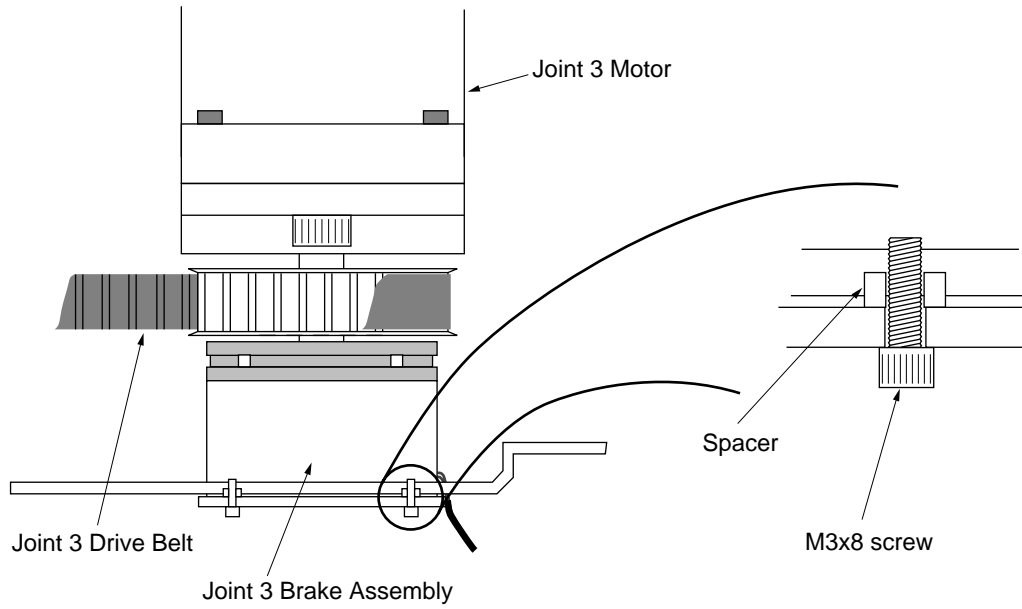

Figure 7-4. Close-up View of Joint 3 Brake Assembly
NOTE: Be careful not to lose the four spacers that are between the brake assembly and the outer link assembly. See Figure 7-4. These spacers are necessary to ensure that the brake is aligned properly with the Joint 3 drive pulley.
6. Re-install the Joint 3 brake assembly, making sure the spacers are in place (see Figure 7-4) and that the brake assembly fits correctly. You may have to move Joint 3 up or down slightly to ensure the brake assembly meshes correctly with the mechanism on Joint 3. Secure the brake assembly with the 4 screws.